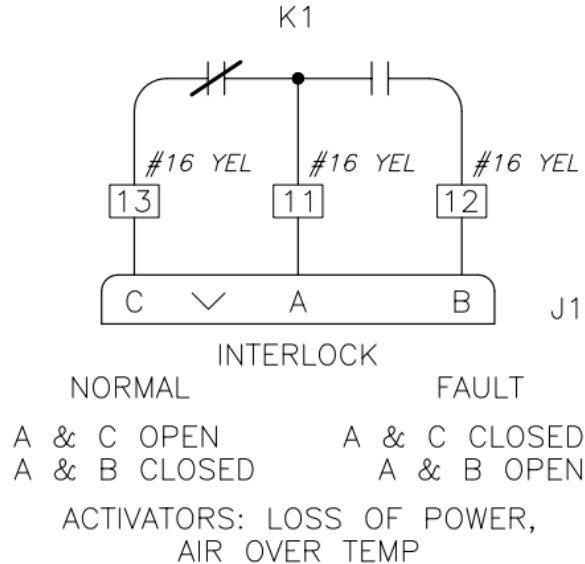

Figure 5. Interlock Relay Schematic
5. Use connector provided to prepare an interlock cable for the associated RF transmitter. See Figure 5 and accompanying text for explanation of interlock circuit operation.
Figure 5 is the schematic of the interlock relay circuit. An interlock protects the coaxial load, when used properly, by shutting down the coaxial RF input power should a fault develop in the operation of the air